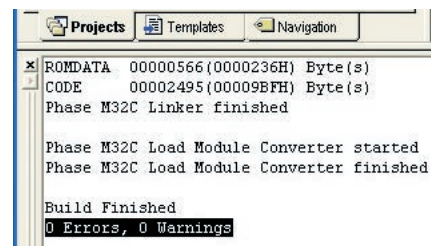

Figure 4. HEW with the skptest85 project compiled
- g) Click the “Build” icon, , to compile, assemble and link the project. HEW will look similar to Figure 4.